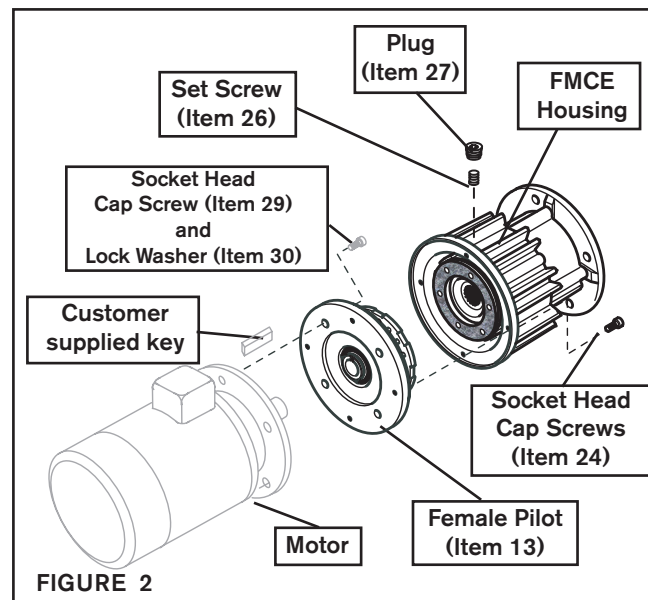

FIGURE 2
1. Insert the customer supplied key into the motor shaft keyway (See Figure 2).
2. Remove the Socket Head Cap Screws (Item 24) and the Female Pilot (Item 13); then, secure the Female Pilot to the motor face using Nexen supplied Socket Head Cap Screws (Item 29) and Lock Washers (Item 30) (See Figure 2).
4. Slide the Female Pilot (Item 13) onto the motor shaft (See Figure 2).
5. Apply a drop of Loctite® 242 to the threads of the Socket Head Cap Screws (Item 24) (See Figure 2).
6. Secure the FMCE Housing (Item 1) to the Female Pilot (Item 13) using Socket Head Cap Screws (Item 24); then, alternately and evenly tighten the Socket Head Cap Screws to the recommended torque (See Figure 2 and Table 1).
7. Align the Set Screw (Item 26) in the Drive Disc (Item 4) with the hole in the FMCE Housing (See Figure 2).
8. Tighten the Set Screw (Item 26); then, install the Plug (Item 27) (See Figure 2).